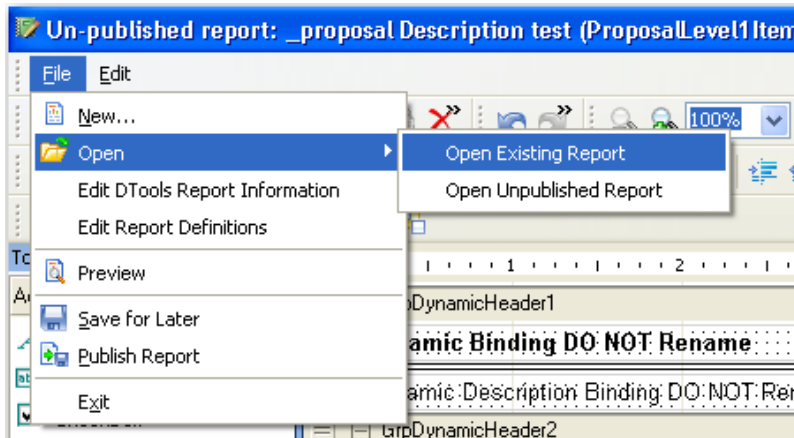

Figure 38
- Via menus: File > Open > Open Existing Report (Figure 38):